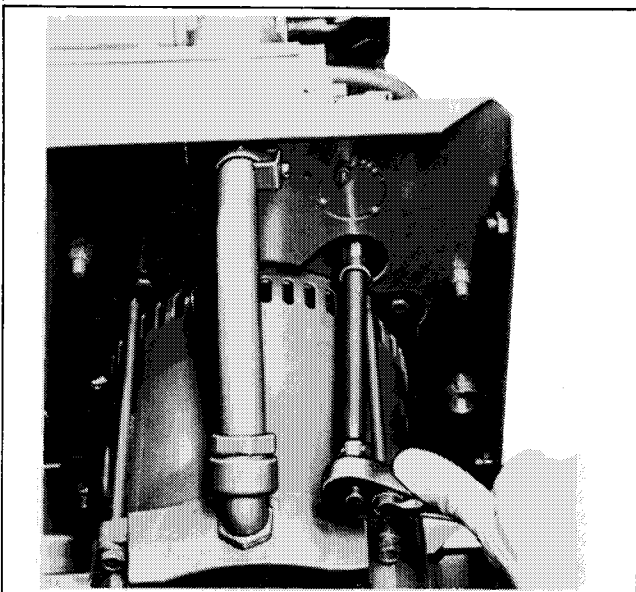

Figure 3-4. Oil Drain Location
Change the oil after the first two (2) hours of operation and at 25 hour intervals thereafter. Change more frequently if operating under dirty, dusty conditions. If possible drain oil while hot. To drain, remove oil drain plug with a 3/8 in. (8 point) hex socket wrench. Oil drain plug is located underneath mounting tray. Figure 3-4. Place a container underneath drain plug to catch draining oil. Replace plug after oil has completely drained. Oil capacity is 1.25 quarts (1.18 liters). Refer to Oil Selection chart following for correct oil type.